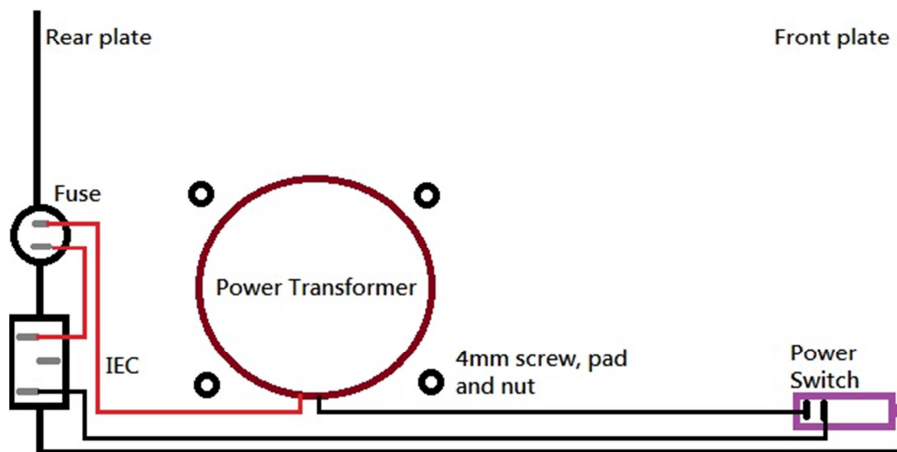

Figure 9: Connection diagram of power transformer to IEC socket
- B. Mount the power transformer with four 4mm screws, pads and nuts. Connect the primary wires (refer to section I for EU or US standards) to the IEC socket of the chassis via a fuse socket and a power switches as Figure 9.